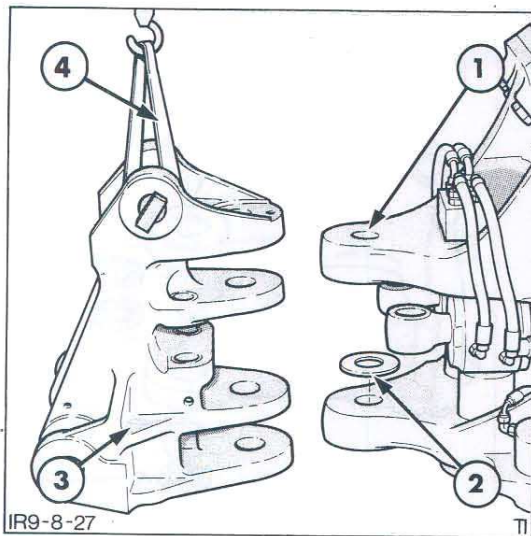

Figure 27
7. Withdraw the upper and lower swing post pivot pin retaining bolts and drive the pins out using a brass drift and hammer. Remove the post from the Unit and retrieve the thrust washer, Figure 27.